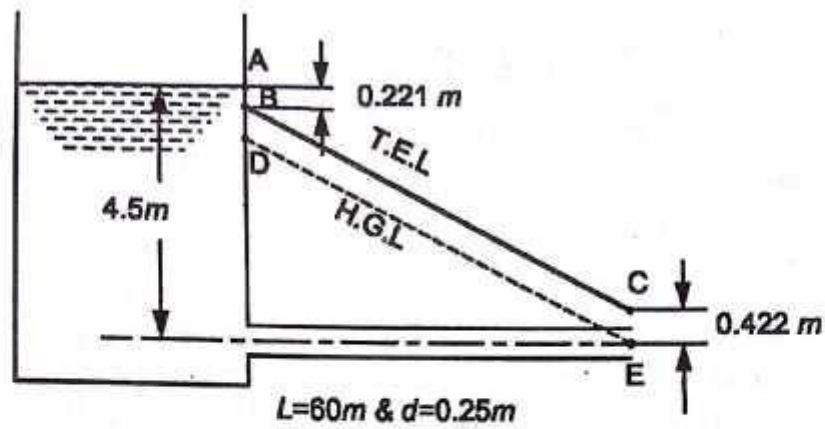

Figure 2.3
3. Total energy available at the exit of the pipe, i.e., at C is already found out as $0.442m$. Therefore, a point C is placed at a distance $0.442m$ from the centre line as shown in Figure 2.3.
2. Piezometric head at the exit of the pipe is 0m. Therefore, a point E is placed on the datum line as shown in Figure 2.3.